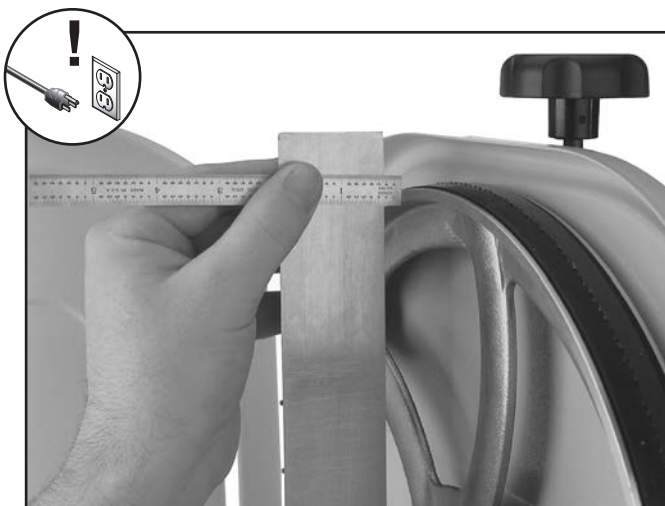

Figure 71. Example of measuring the distance to shim the wheel to be coplanar.
3. With straightedge touching both rims of wheel that does not need to be adjusted, measure the distance away from the other wheel with a fine ruler, as shown in **Figure 71**. The distance measured with the ruler is the distance this wheel must be shimmed.